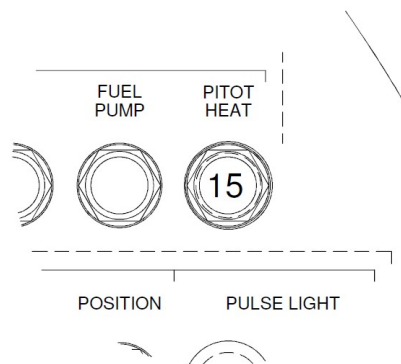

Figure 2: Circuit Breaker for Non-G500 Instrument Panel
11.1.5.1 Non-G500: On the SYSTEM Circuit Breaker Panel, remove the circuit breaker cap at the PITOT HEAT location and install the 15A Circuit Breaker (p/n: MS3320-15), as shown in Figure 2.